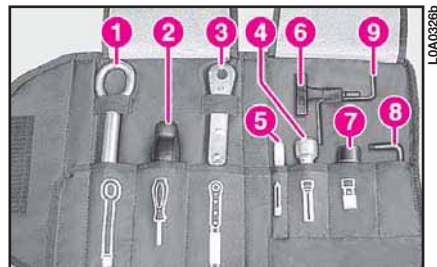

fig. 8
9) Open the tool bag and take out the tools to be used (fig. 8):
IMPORTANT Put the jack back into **B** (**fig. 8**) and clamp it by screwing handle **A** (**fig. 8**) manually in order to prevent vibrations during travelling.